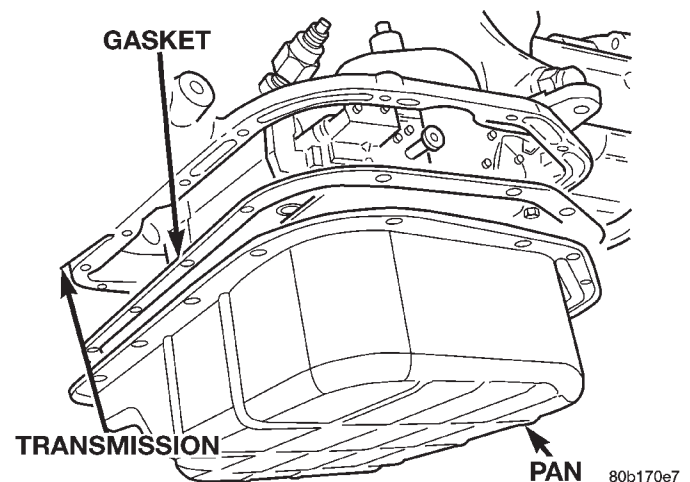
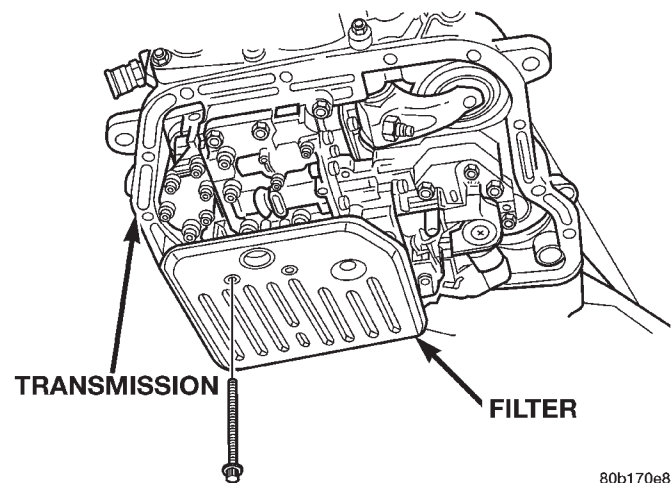

Fig. 14 Transmission Pan
Fig. 15 Transmission Filter
- (1) Hoist and support vehicle on safety stands.
- (2) Place a large diameter shallow drain pan beneath the transmission pan.
- (3) Remove bolts holding front and sides of pan to transmission (Fig. 14).
- (4) Loosen bolts holding rear of pan to transmission.
- (5) Slowly separate front of pan away from transmission allowing the fluid to drain into drain pan.
- (6) Hold up pan and remove remaining bolts holding pan to transmission.
- (7) While holding pan level, lower pan away from transmission.
- (8) Pour remaining fluid in pan into drain pan.
- (9) Remove screws holding filter to valve body (Fig. 15).
- (10) Separate filter from valve body and pour fluid in filter into drain pan.
- (11) Dispose used trans fluid and filter properly.
(1) Place replacement filter in position on valve body.
(2) Install screws to hold filter to valve body (Fig. 15). Tighten screws to 4 N·m (35 in. lbs.) torque.
(3) Place new gasket in position on pan. and install pan on transmission.
(4) Place pan in position on transmission.
(5) Install screws to hold pan to transmission (Fig. 14). Tighten bolts to 17 N·m (150 in. lbs.) torque.
(6) Lower vehicle and fill transmission with Mopar® ATF Plus 3, type 7176 fluid.